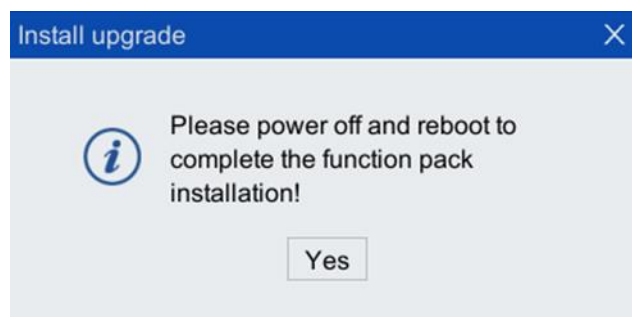

Fig. 3-6 "Install and Upgrade" dialog box
Step 8. After the progress bar is updated, the "Install Upgrade" dialog box shown in Fig. 3-6 will pop up. At this time, the device can be powered off and restarted to complete the feature pack upgrade.